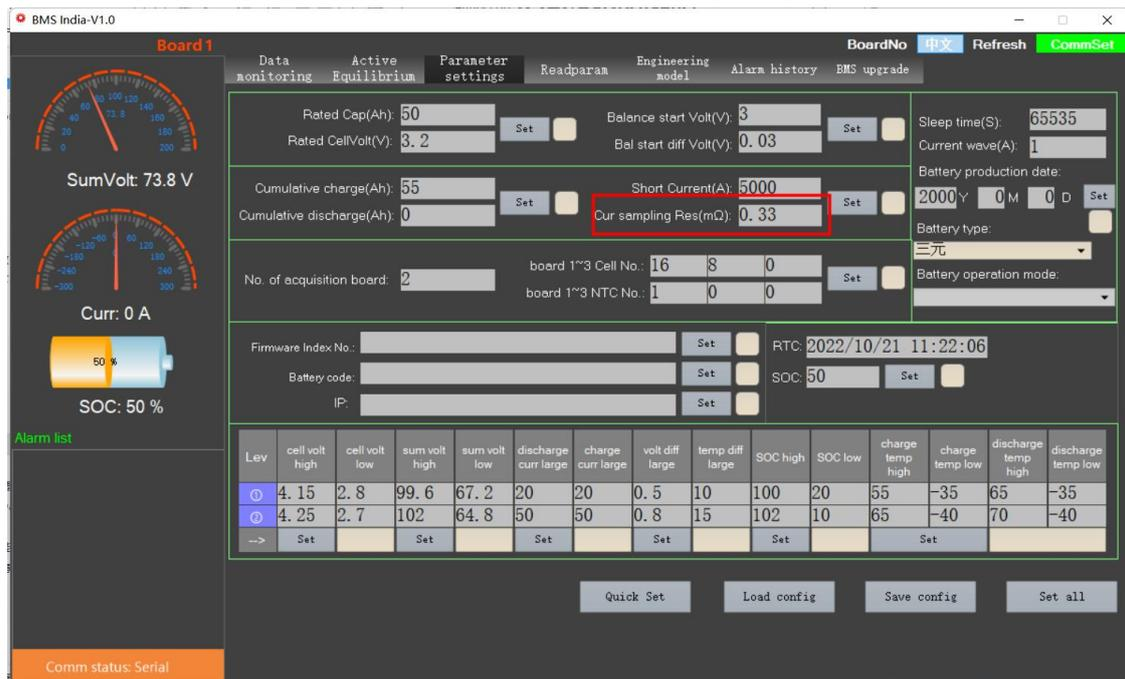

Figure 2-21 Setting the current sampling resistor of the BMS
- (1) Set the current sampling resistor of the protection board in the parameter setting panel. **Figure 2-21.**
- (2) When the battery is not connected to the charger and load, click "Current 0A Calibration".